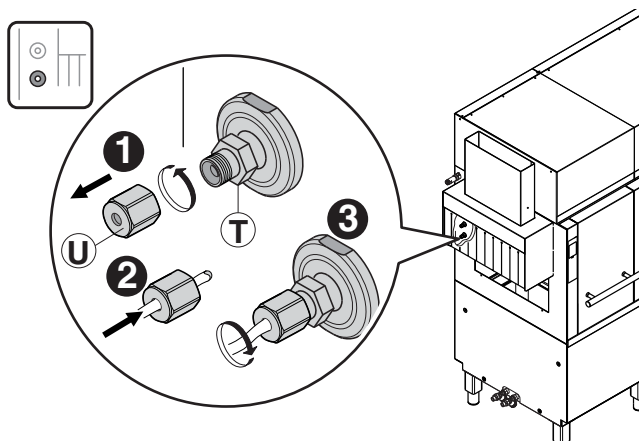

Figure 22 Rinse aid connection
The left or right side panels of the dishwasher have a “P” injector [6mm OD] (Figure 22) for connecting the detergent dispenser.
- unscrewing the “R” fitting (Figure 22) from the “P” injector;
- connect the detergent pipe, coming from the external dispenser, on the “R” fitting (Figure 22);
The left or right side panels of the dishwasher have a "T" injector [6mm OD] (Figure 22) for connecting the rinse aid dispenser.
- unscrewing the "U" fitting (Figure 22) from the "T" injector;
- connect the rinse aid pipe, coming from the external dispenser, on the "U" fitting (Figure 22);